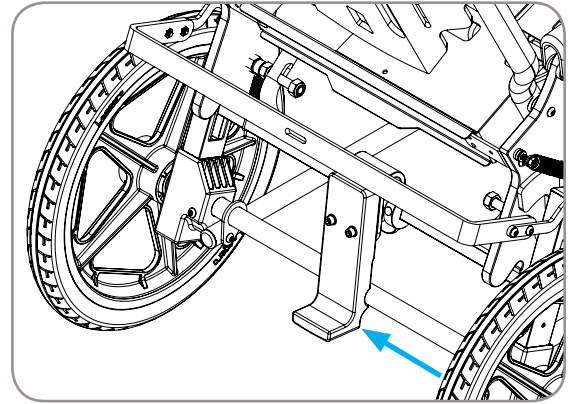

Figure 8, Hip Angle Unlocked
5. Hold handlebar position, using foot pull upward on hip angle lock mechanism. Reference Figure 8.
7. To return to unlocked Activator Dynamic Seating mode, push down mechanism until it clicks in place. Notch will be aligned with rear axle tube as shown in Figure 8.